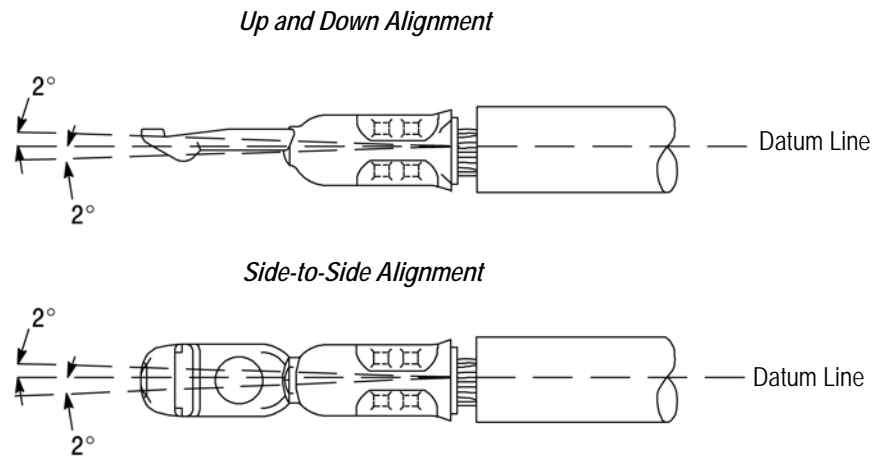

Figure 6
- 1) Up and Down -- The crimped portion must not be bent beyond the limits shown in Figure 6.
- 2) Side-to-Side -- The crimped portion must not be bent from one side to the other beyond the limits shown in Figure 6.